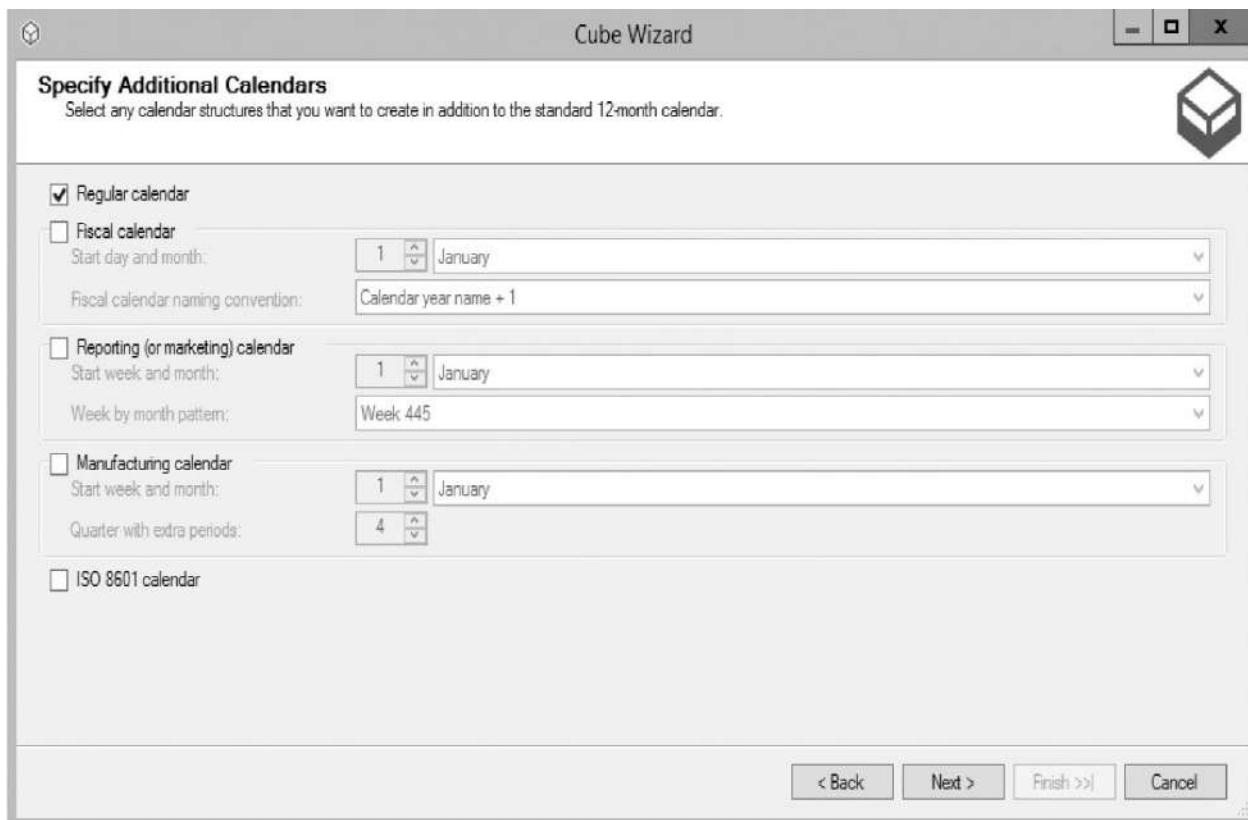

Figure 6-29 Specifying additional calendars in the Cube Wizard
38. The Specify Additional Calendars page lets us add calendars other than the standard 12-month calendar to the date dimension. The Specify Additional Calendars page is shown in Figure 6-29. This might include a calendar for a fiscal year that starts on a day other than January 1 or the ISO 8601 standard calendar. Max Min tracks sales based on the standard 12-month calendar, so simply click Next.